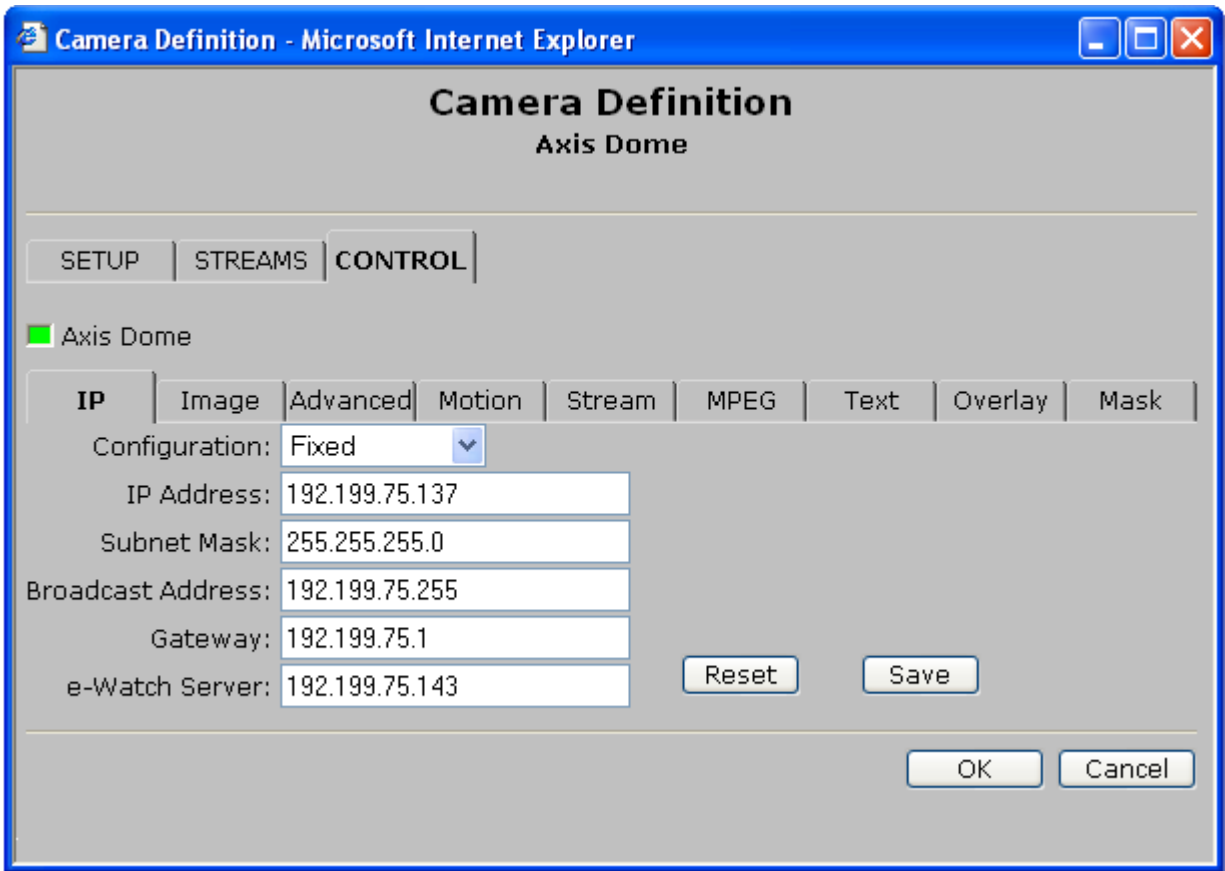

Figure 4-9. Manually Updating The Camera's IP Address
If you change the IP address of an Axis camera that does not support Event Configuration, follow these steps to manually update the camera's IP address in the e-Watch system . See Figure 4-9.
- Figure 4-9. Manually Updating The Camera's IP Address 21